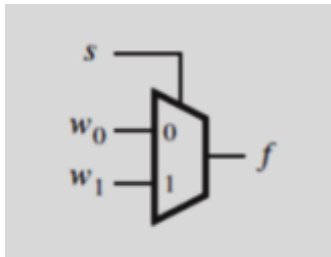

Figure 3.1a Graphical symbol
- Fig. 3.1a shows the graphical symbol for a 2-to-1 multiplexer.